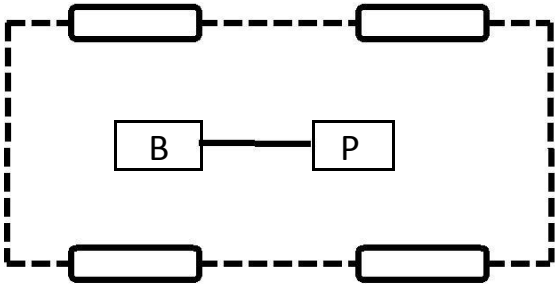

Figure 4a: EV configuration with battery source [1]
- **Configuration 1:** It is a simple battery powered configuration, **Figure 4a**. The battery may be distributed around the vehicle, packed together at the vehicle back or located beneath the vehicle chassis. The battery in this case should have reasonable specific energy and specific power and should be able to accept regenerative energy during braking. In case of EVs, the battery should have both high specific energy and specific power because high specific power governs the driving range while the high power density governs the acceleration rate and hill climbing capability.